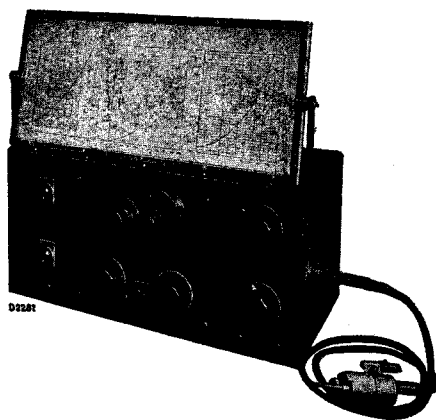

Fig. 1
1. Service oscillator GM 2880 (fig. 1).
4. Trimming plug-in key 6 mm, without metal parts.